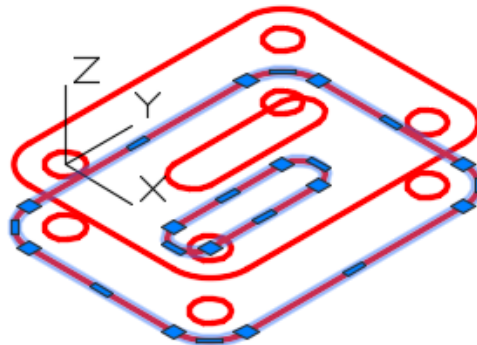

Figure Step 8
Step 8 Delete all of the objects except the circles on the bottom of the model and then copy the plines you just created to the bottom. (Figure Step 8)